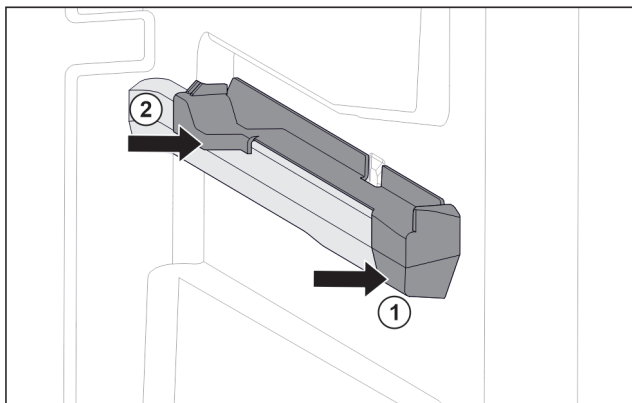

Fig. 148 Attachment on the right moulded rib
- Position attachment on moulded rib at the front. Fig. 148 (1)
- Press on attachment at the back. Fig. 148 (2)